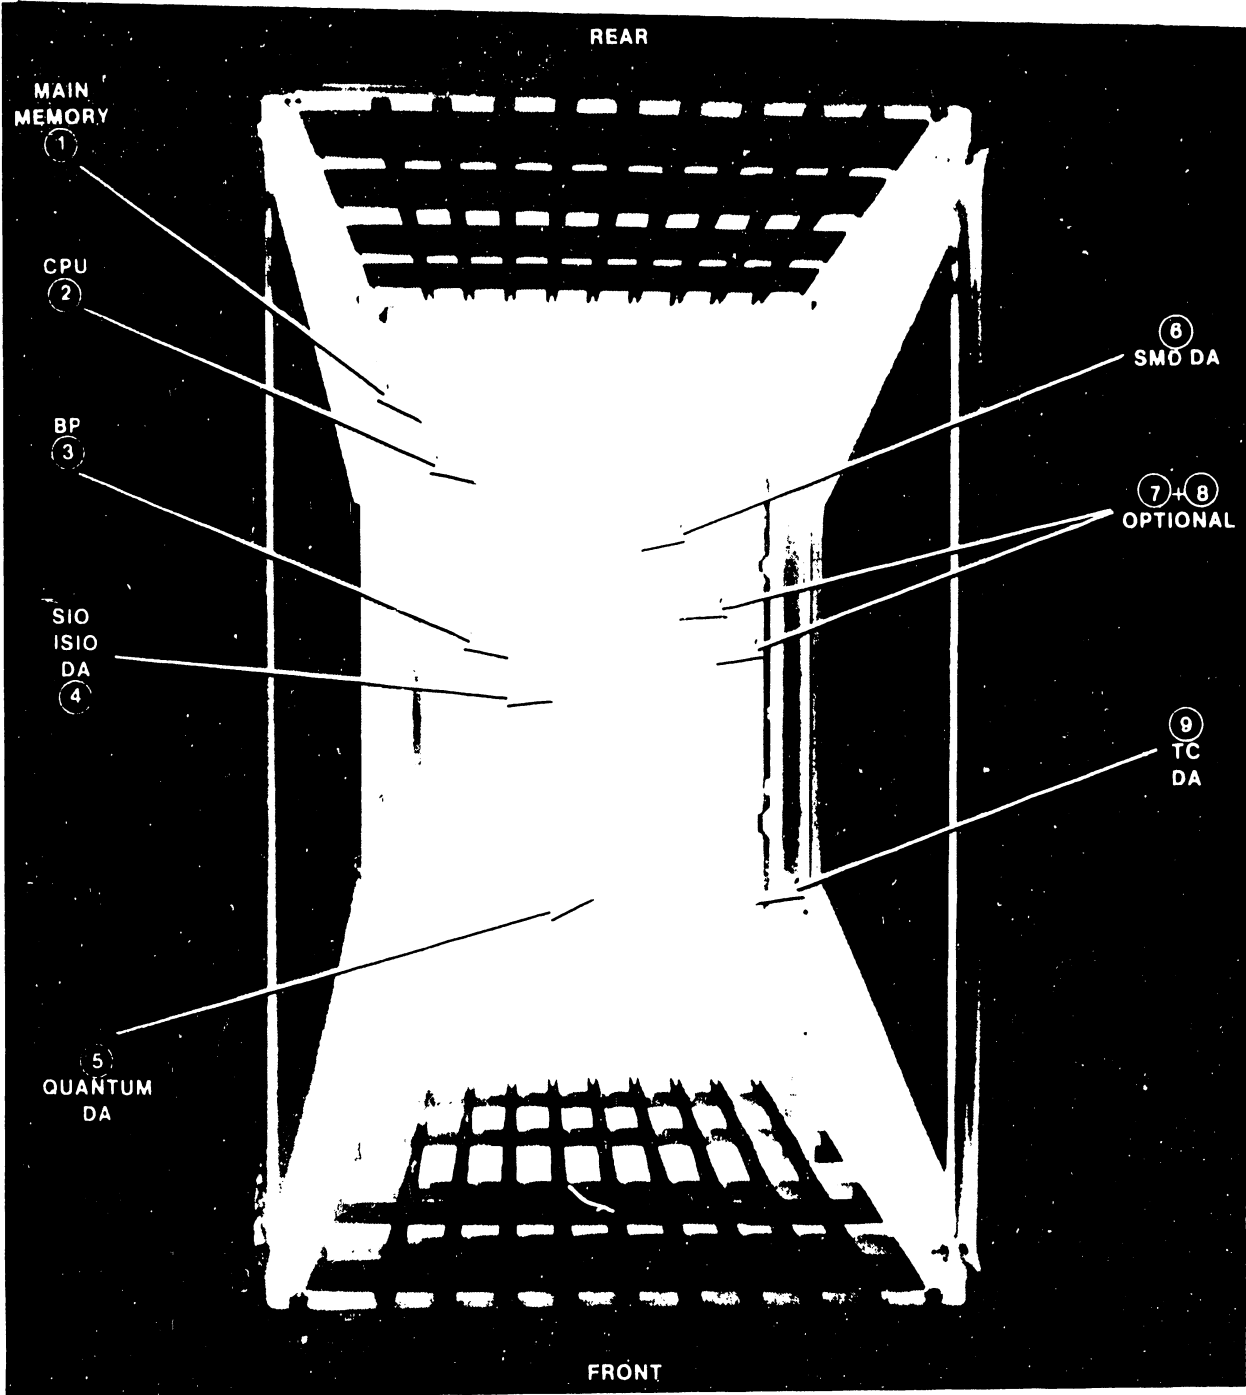
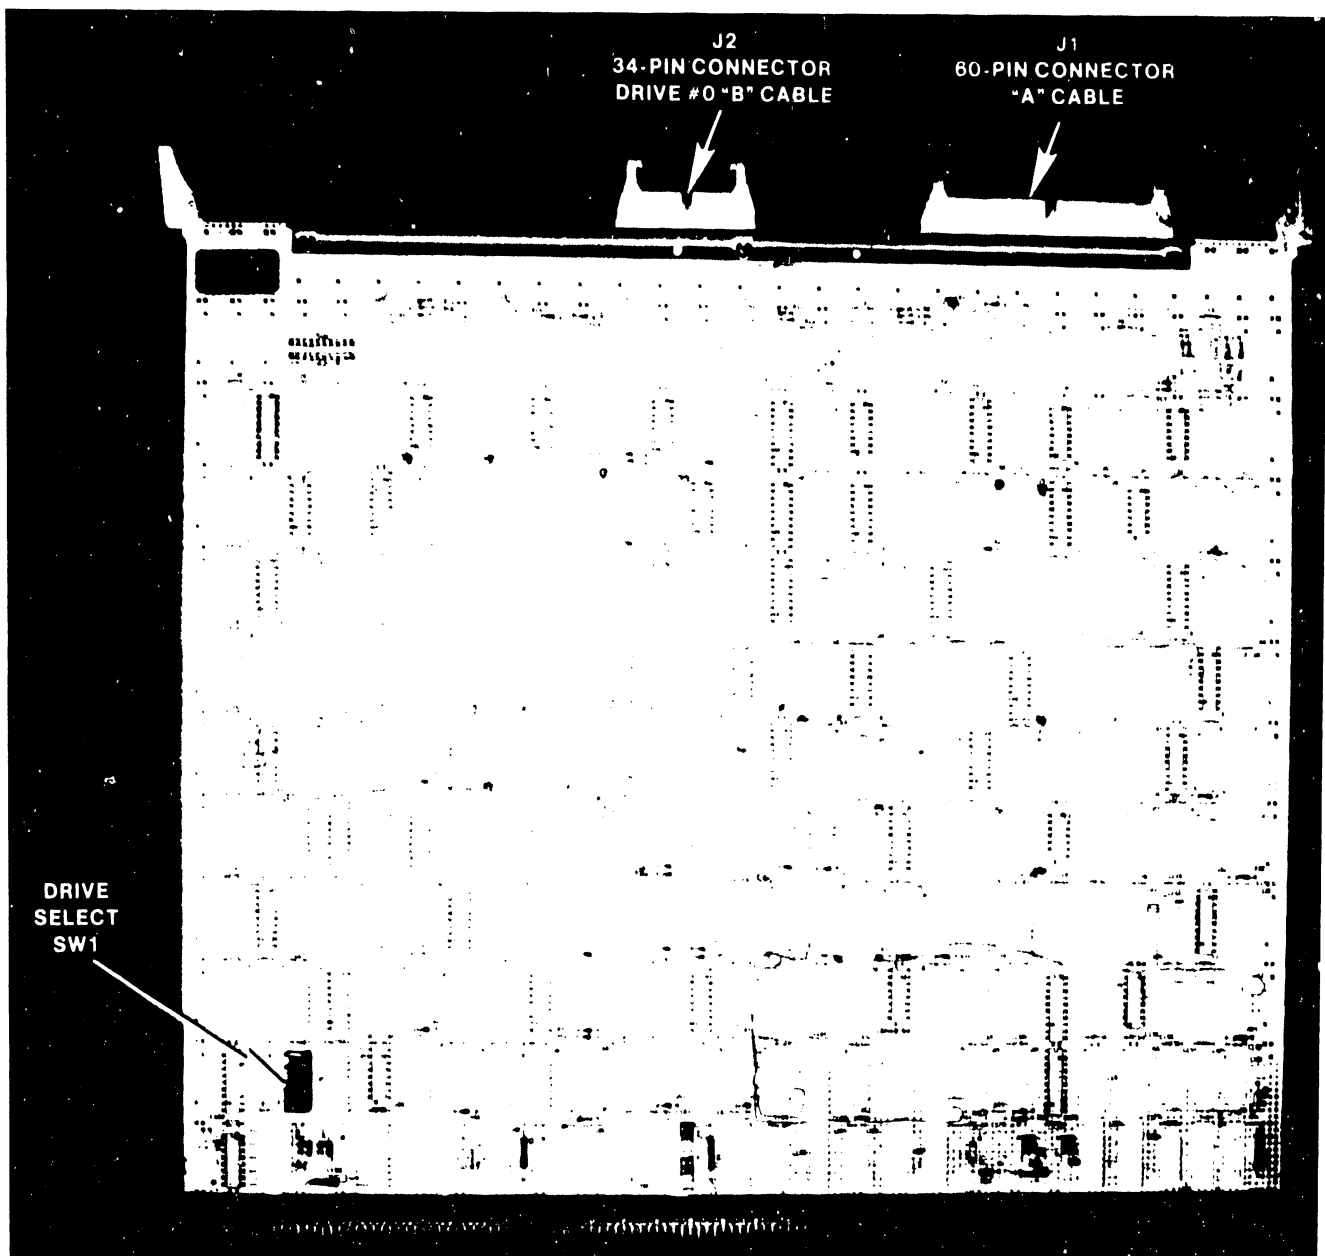

Figure C-6. VS-25/45 Motherboard
Figure C-14. 210-8312 1-Port SMD Disk Device Adapter
- a. Install the 210-8312 SMD Device Adapter (figure C-14) in Motherboard slot #6 (I/ODA3), figure C-6.
- b. Set the 8-position disk device type switch SW1 for the NEC drive, referring to figures C-14 and C-15. The switch is at location L178 on the adapter.
- g. Connect the new A cable (220-3332) to J1 and the new B cable (220-3331) to J2 of the SMD DA. (Figure C-14.)